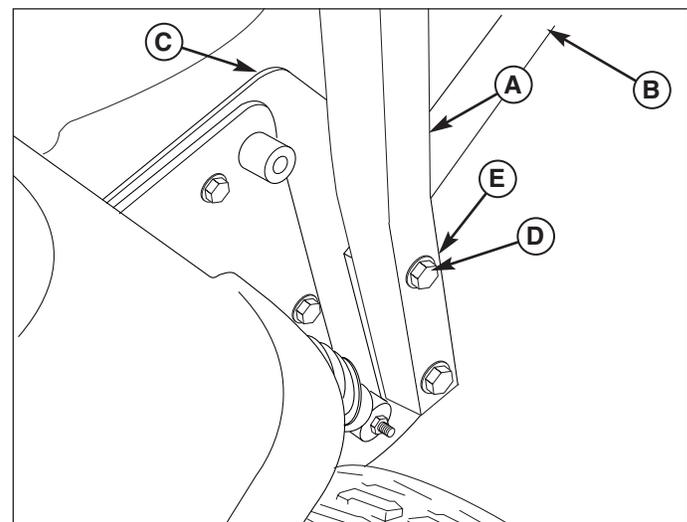
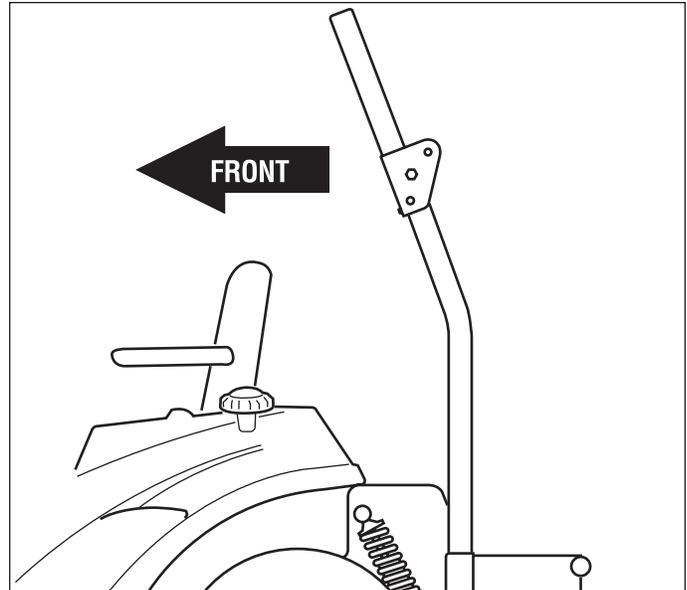

Figure 8. Install the Upright Tubes
Figure 9. Upright Tube Orientation
2. Make sure the rubber stop (C) is properly seated against the inside of the pivot mount. See Figure 8.
1. See Figure 8. Remove and save the (2) 1/2-13 X 3-1/2" bolt (D, Figure 8), 1/2" SAE washer, and 1/2-13 hex nylock flange nut that secures the bumper to the frame of the machine on one side of the machine. Discard the 1/2-13 hex jam nuts that are tightened on the threads of the 1/2-13 X 3-1/2" bolts.
2. Install the upright tube (A) (refer to Figure 9 for correct orientation) on the outside of the bumper (B) as shown in Figure 8 and loosely reinstall the 1/2" hardware previously removed.
IMPORTANT: Make sure the upright tubes are angled towards the front of the unit. See Figure 9.
5. Tighten the hardware securing the upright tubes to the frame and bumper (see Figure 8). Torque the hardware to 75 ft. lbs. (102 Nm).
6. Tighten the 1/2" x 3" bolts and hex side lock nuts (C & E) securing the top loop (A) to the upright tubes (B). Do not over-tighten. The top loop should pivot snugly with the retainer pins removed.
7. Raise the top loop (A) until the rubber stops (F) contact the upright tubes.